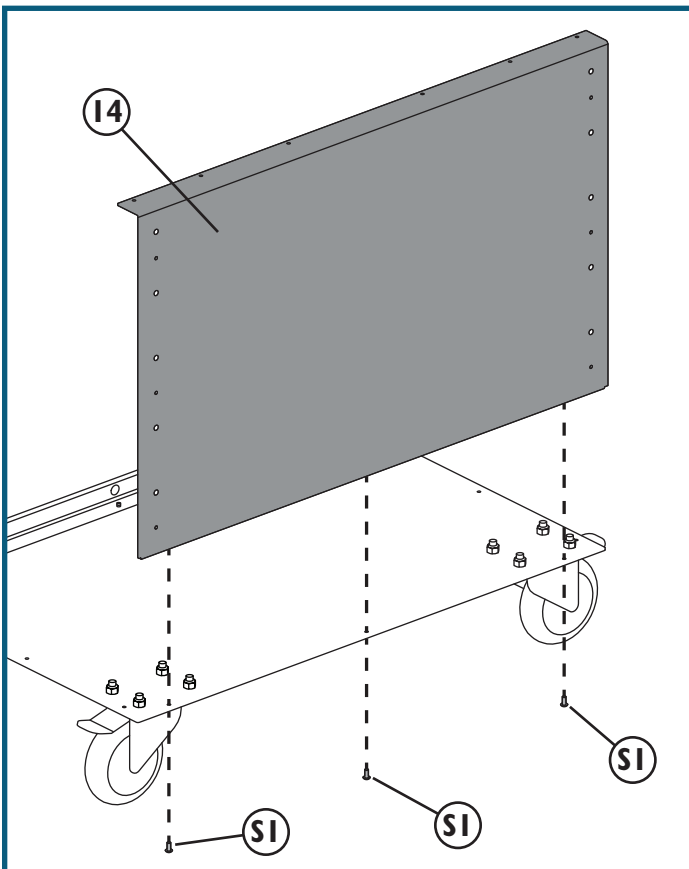

Fig. 6
7. Attach the Back Panel (14) to the Cabinet Bottom (1) with three M4 x 3/8" Pan-Head Self-Tapping Screws (S1) driven up through the Cabinet Bottom and into the bottom flange (with the angled ends) on the Back Panel. **Fig. 6.**